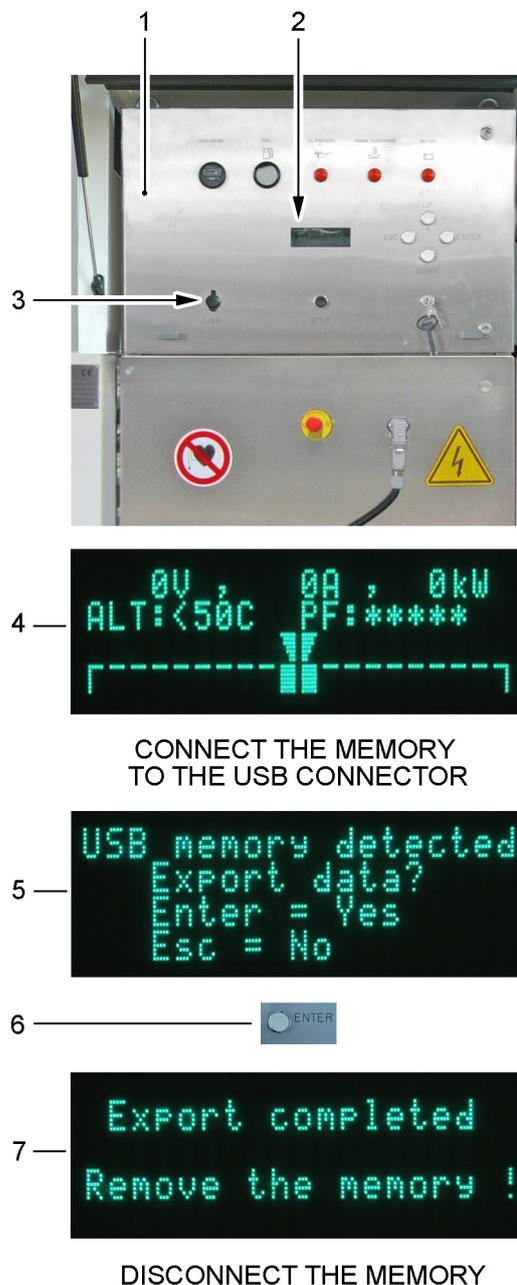

Figure 6.51 - Download the logger's data file (Optional)
On the command and control panel (see Figure 6.51/1) of the Induction Heating Generator IHG 150CU an USB connector (3) may be installed to be used for downloading a file named LOG.CSV containing all the logger data. In order to correctly use this function it is advisable to utilize memories of 16GByte capacity maximum possibly empty.